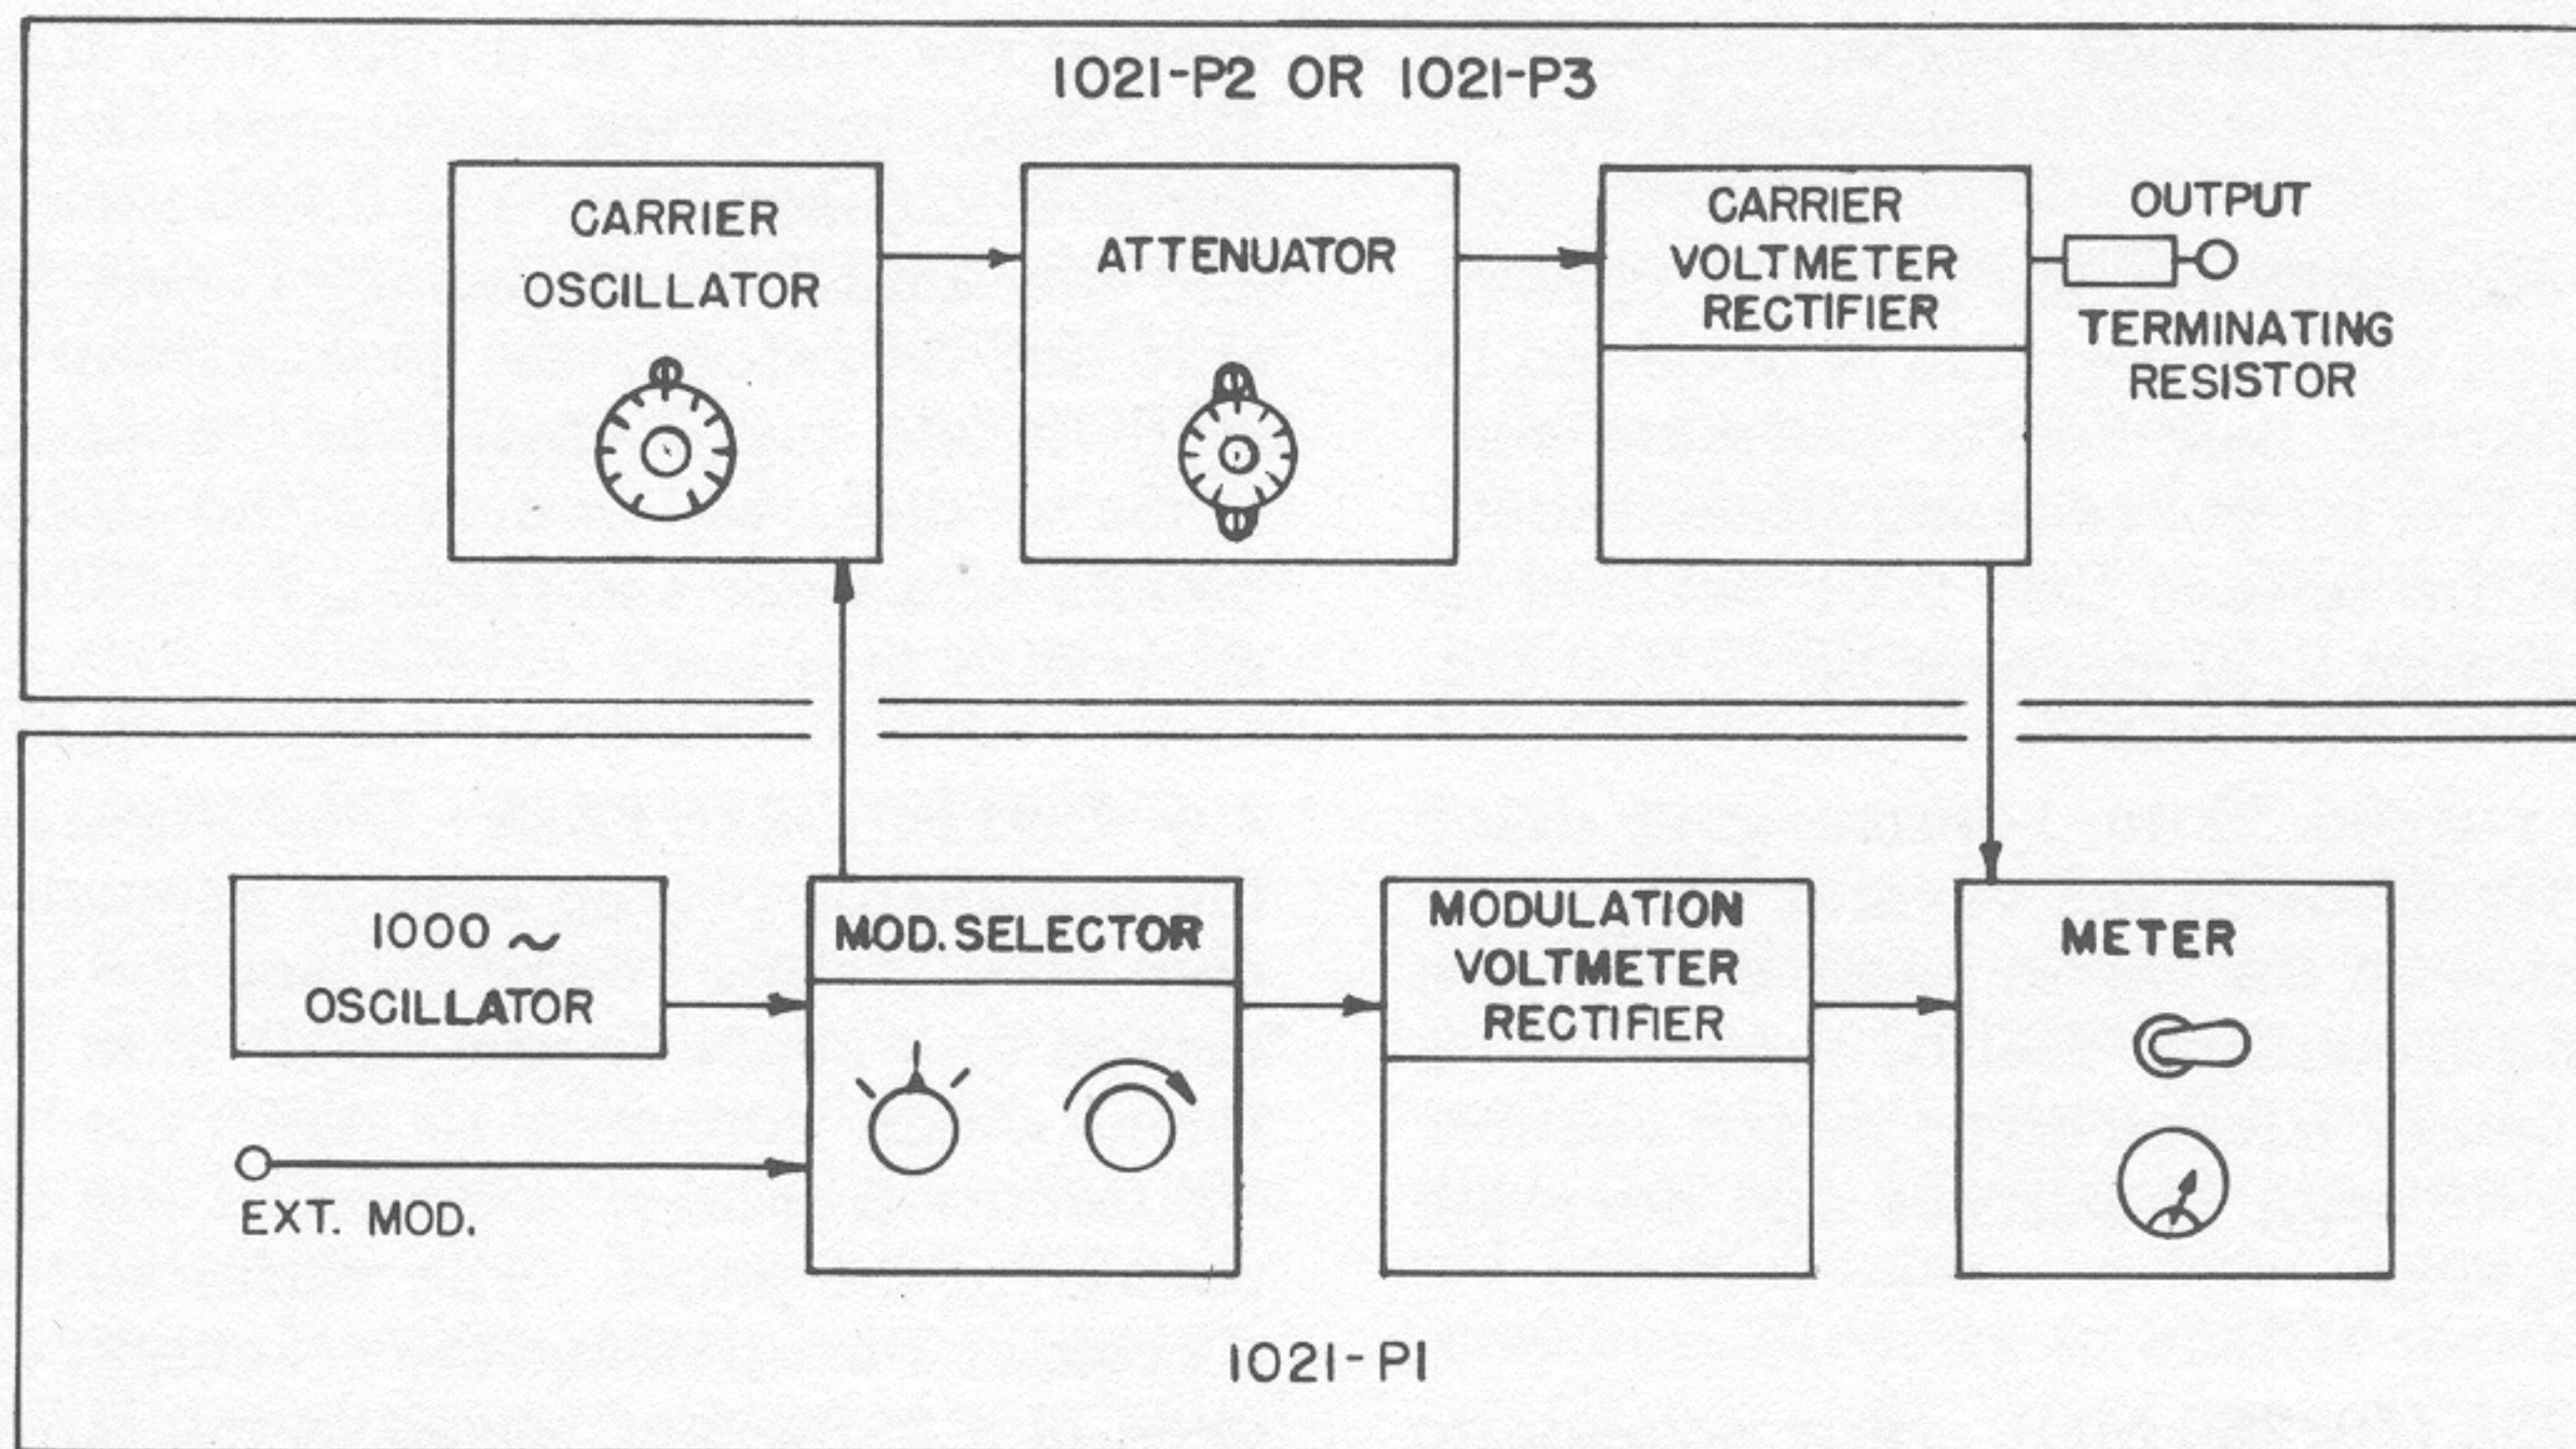

Figure 2. Functional Block Diagram.
2.1 GENERAL. The functional arrangement of the instrument is shown in Figure 2. The upper part of the diagram represents the r-f section and the lower part the power supply. The operating frequency is set by the main six-inch dial of the carrier oscillator. The output voltage is controlled by the ATTENUATOR control. High output voltages are read directly on the carrier meter, which is energized by the carrier voltmeter-rectifier in the r-f section. Low output voltages are set by the ATTENUATOR after a reference level is established at 0.5 volt by means of the meter.
change, the effective output impedance of the Standard-Signal Generator is 50 ohms. Maintaining a constant voltage level at the reference point produces an effective impedance of zero at the output voltmeter. The output impedance of the Standard-Signal Generator is then determined by the terminating resistor at the output terminal. (See Figure 2.)